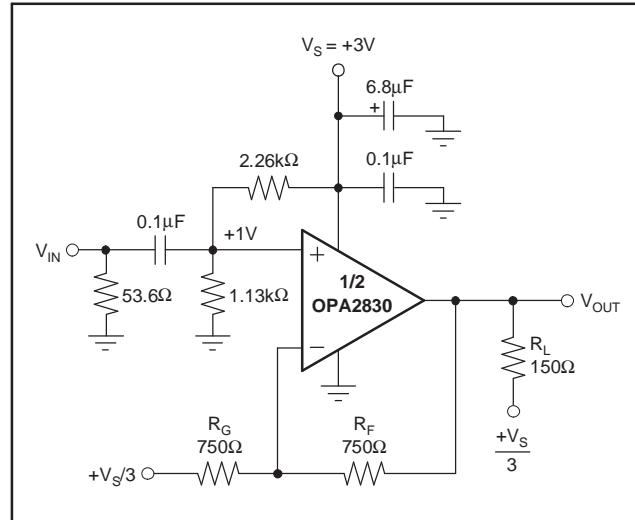
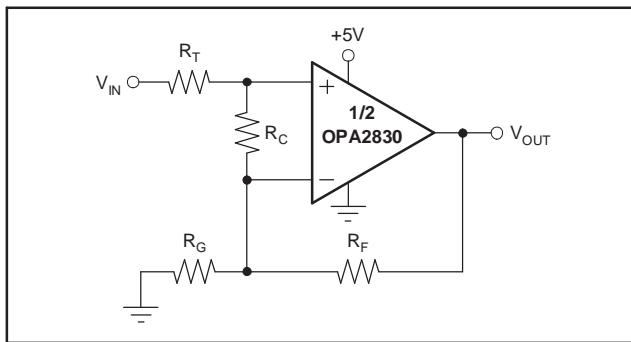

Figure 71. AC-Coupled, $G = +2$, +3V Single-Supply Specification and Test Circuit
Figure 77. Compensated Noninverting Amplifier
At $T_A = +25^\circ\text{C}$, $G = +2\text{V/V}$, and $R_L = 150\Omega$ to $V_S/3$, unless otherwise noted (see Figure 71).
Figure 71 shows the AC-coupled, gain of +2 configuration used for the +3V Specifications and Typical Characteristic Curves. Voltage swings reported in the Electrical Characteristics are taken directly at the input and output pins. For the circuit of Figure 71, the total effective load on the output at
Figure 77 shows a noninverting amplifier that reduces peaking at low gains. The resistor R_C compensates the OPA2830 to have higher Noise Gain (NG), which reduces the AC response peaking (typically 4dB at $G = +1$ without R_C) without changing the DC gain. V_{IN} needs to be a low impedance source, such as an op amp.
Frequency response in a gain of +2 may be modified to achieve exceptional flatness simply by increasing the noise gain to 3. One way to do this, without affecting the +2 signal gain, is to add an $2.55\text{k}\Omega$ resistor across the two inputs, as shown in Figure 77. A similar technique may be used to reduce peaking in unity-gain (voltage follower) applications. For example, by using a 750Ω feedback resistor along with a 750Ω resistor across the two op amp inputs, the voltage follower response will be similar to the gain of +2 response of Figure 71. Further reducing the value of the resistor across the op amp inputs will further dampen the frequency response due to increased noise gain. The OPA2830 exhibits minimal bandwidth reduction going to single-supply (+5V) operation as compared with $\pm 5\text{V}$. This minimal reduction is because the internal bias control circuitry retains nearly constant quiescent current as the total supply voltage between the supply pins is changed.
The criterion for setting this R_S resistor is a maximum bandwidth, flat frequency response at the load. For a gain of +2, the frequency response at the output pin is already slightly peaked without the capacitive load, requiring relatively high values of R_S to flatten the response at the load. Increasing the noise gain will also reduce the peaking (see Figure 77).